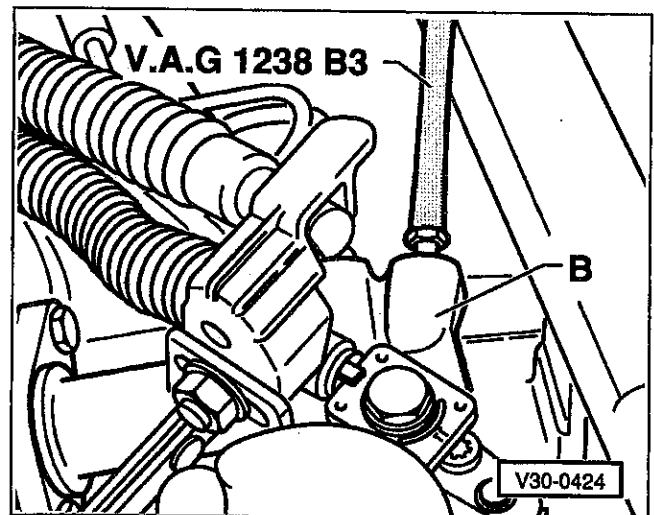

Fig. 13. Bleeder hose shown connected to bleeder valve on slave cylinder (B).
2. Connect bleeder hose to slave cylinder and open bleeder valve to bleed system. See Fig. 13.